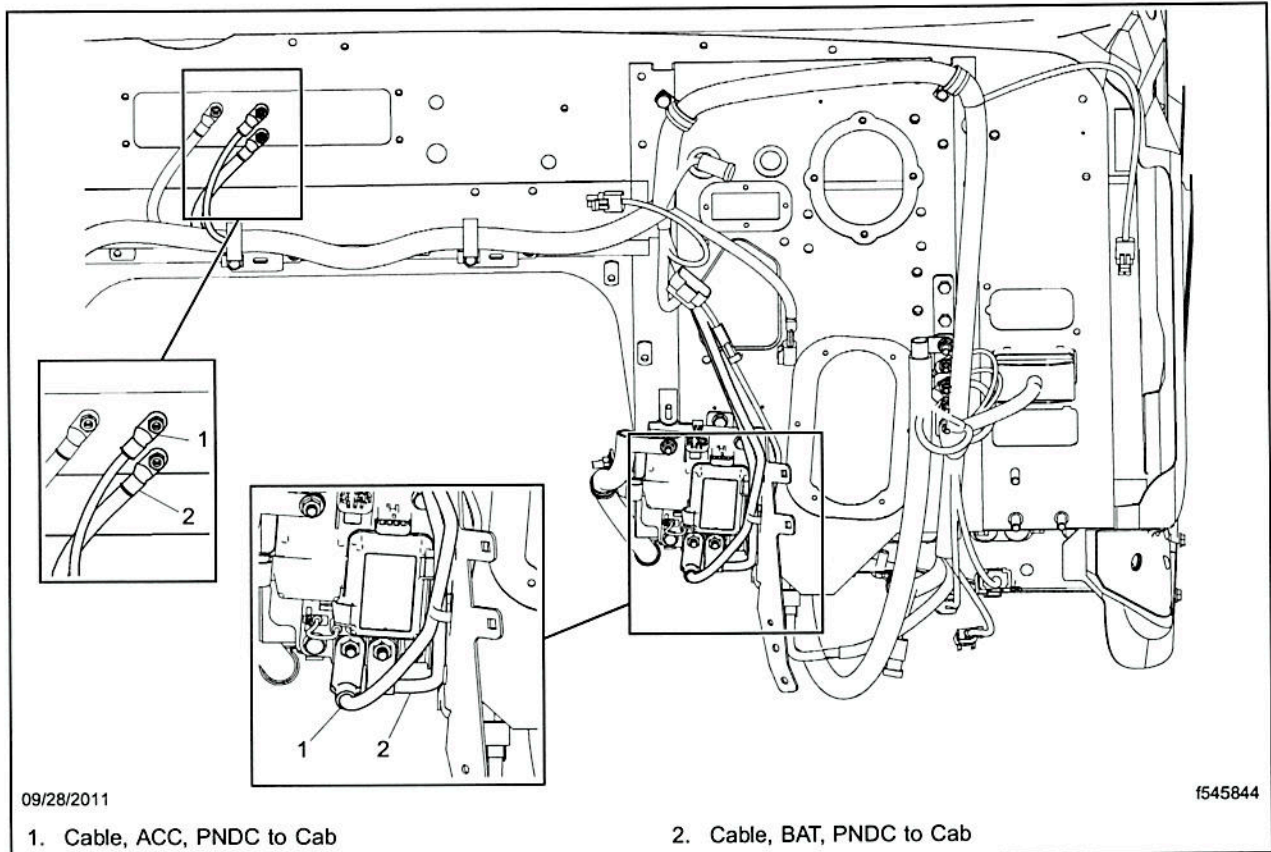

Fig. 3, Replacing Cables
12. Disconnect and remove the two cables that go from under the cover to the PNDB from the wiring harness. See **Fig. 3**.